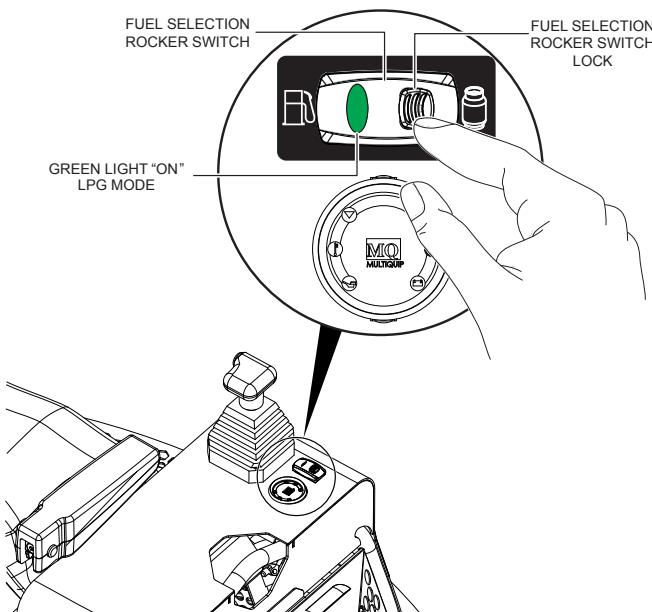

Figure 21. Fuel Selection Switch (LPG Mode)
7. To select **LPG** mode, press down on the right side of the fuel selection rocker switch. The **GREEN** light is **ON** (Figure 21).